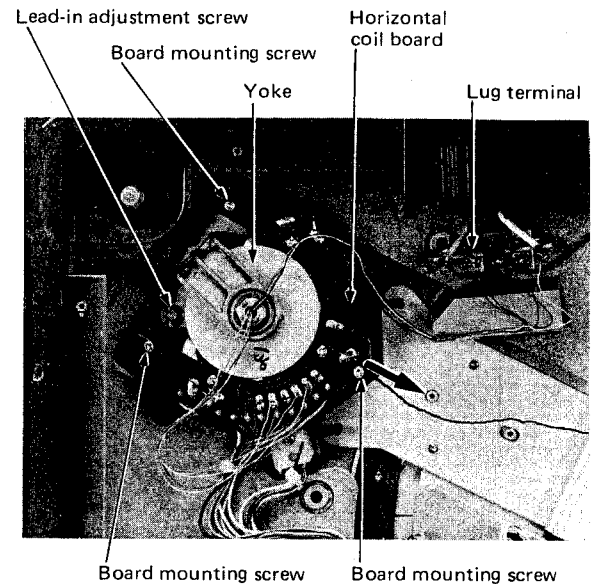

Fig. 20
8-(4) Removal of horizontal coil P.C. board (Fig. 20)